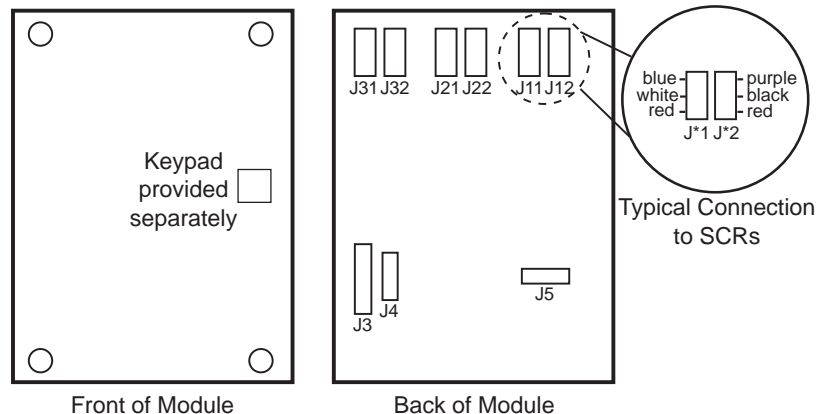

Figure 45: Replacing the Control Module
2. Using a connector extractor, disconnect the nine electrical connectors from the back of the module. While the connectors and module are labeled, note the label and location of each connector. Figure 45 shows a diagram of the module and its connector labels.